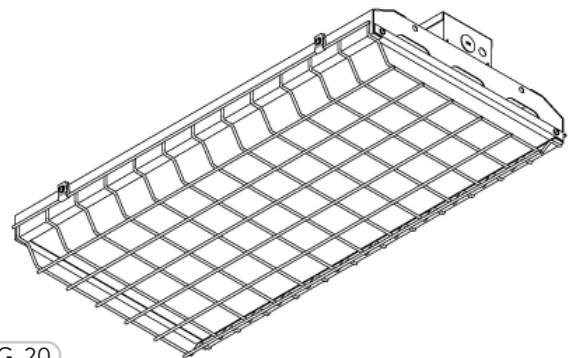

FIG. 20
- 3 The FLHB Fixture is now ready to be safely mounted onto various types of mounting methods and ready for wiring installation (Fig. 20).